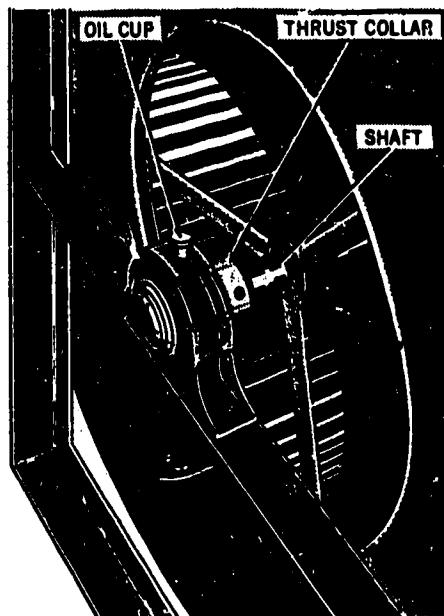

Fig 5-20. Blower bearings.
- BEARING ALIGNMENT - Some belt-driven blowers have bearings that are self-aligning, while others are held in place by bolts which stabilize the bearings to the blower housing. Study figure 5-20 as you proceed through the following. The bearings usually have slots in their base for additional adjustment. Once a bearing has been adjusted, it must be checked periodically for slippage or binding, either of which can cause damage to the blower or shaft.